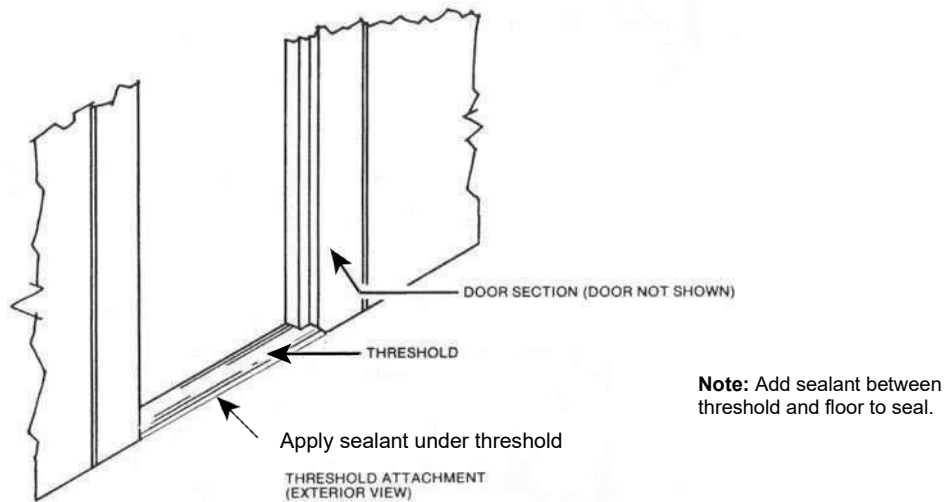

Figure 12
**IMPORTANT!** Make sure that the slam braces are securely fastened to the door section and to the building floor before attaching the threshold to the building floor. Both edges of the threshold should be attached with fasteners that are appropriate for the building floor and, since the floor surfaces vary so greatly in composition, no fasteners are provided and should be obtained by others (Figure 12).